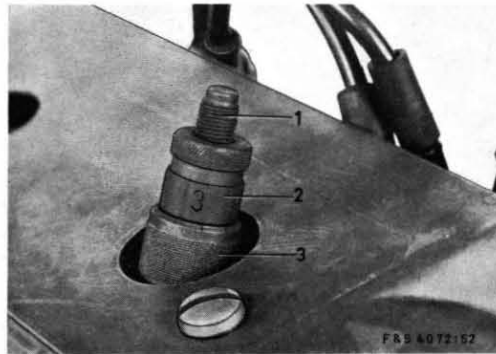

Fig. 44
Fig. 44 and 45
2. Move piston 1 (p. t. o. side) with timing gauge (3, Fig. 44) to top dead center, and align position of magneto flywheel to that piston position.
Tighten adjusting nut (2, Fig. 44) until a light stop is encountered.
Turn adjusting nut (2, Fig. 44) in anti-clockwise direction, according to the value to be adjusted (1 turn of the adjusting nut = 1 mm).
Turn magneto flywheel against its direction of rotation, until the adjusting nut (2, Fig. 44) rests on the timing gauge (3) and piston 1 hits the measuring pin (1).